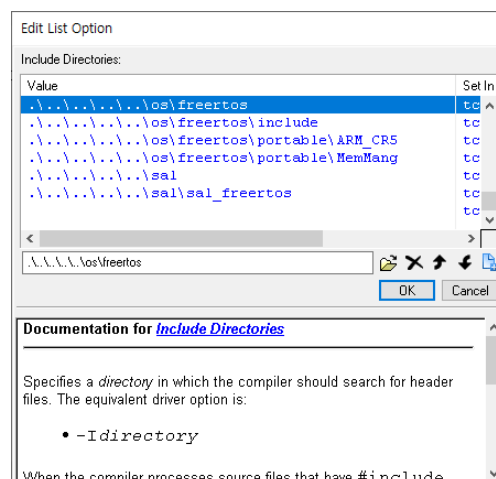

Figure 5.18 Add Include Path
- If you find the tcc70xx_src_freertos_xx.gpj file under the "\ build\ tcc70xx\ ghc\ src_program\ " folder, see Figure 5.18 Add Include Path.